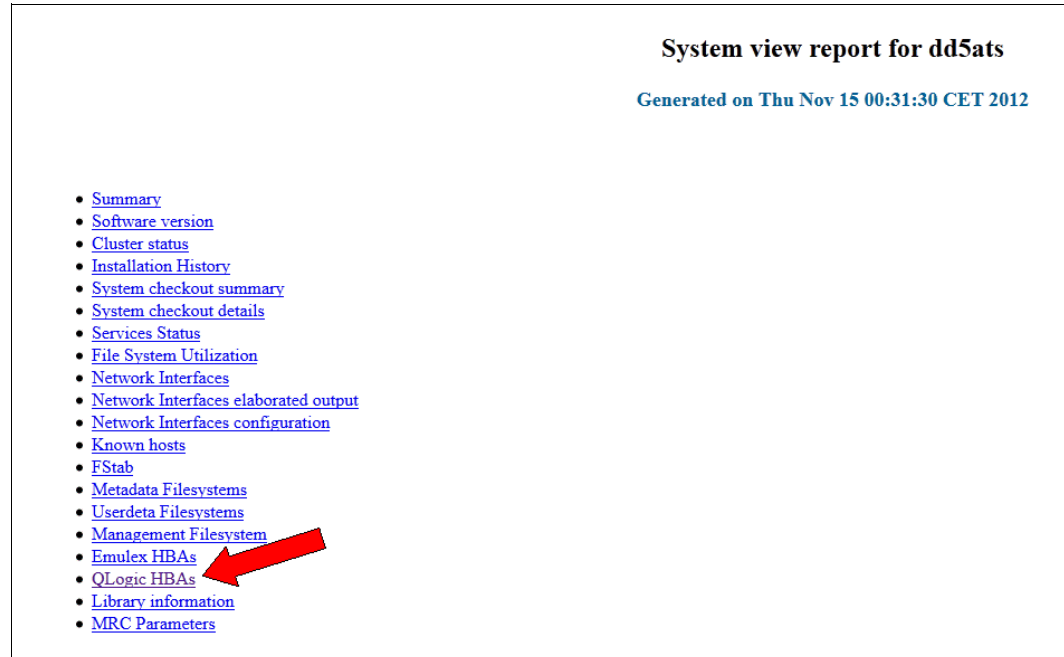

Figure 9-10 Browser showing the systemview.html file
2. Open the systemview.html file with a browser and you see a list of items that you can select. Click **QLogic HBAs**, as shown in Figure 9-10.